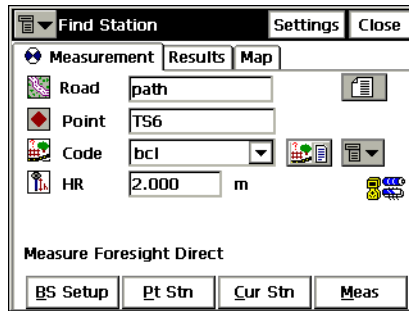

Figure 6-36. Find Station – Measurement Tab
3. Enter the road, the name and the code of the point and the height of the rod (target) (Figure 6-36).